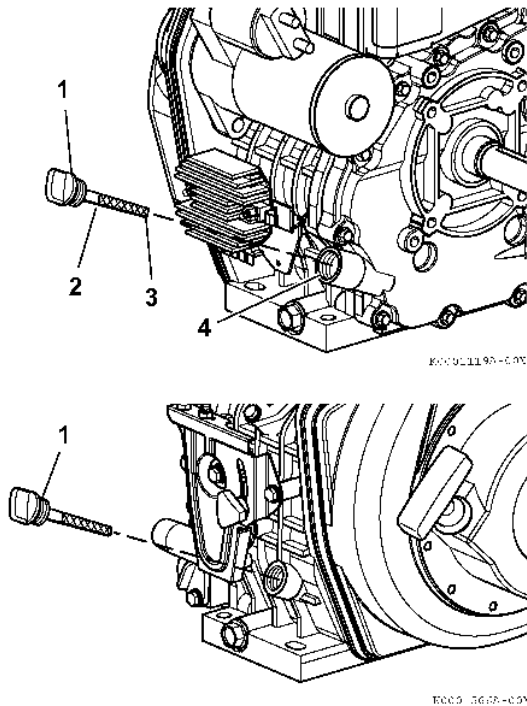

Figure 49
2. Remove oil cap/dipstick (**Figure 49, (1)**) from either location and wipe with clean cloth.
4. Remove oil cap/dipstick. The oil level should be between upper (**Figure 49, (2)**) and lower (**Figure 49, (3)**) lines on the oil cap/dipstick.
5. Fully reinsert oil cap/dipstick (**Figure 49, (1)**) and hand-tighten. Over-tightening the oil cap/dipstick will damage it.
2. Remove oil cap/dipstick (**Figure 49, (1)**).
3. Add indicated amount of engine oil at either one of the engine oil filler ports (**Figure 49, (4)**).
5. Add engine oil as needed until the level is between the upper (**Figure 49, (2)**) and lower (**Figure 49, (3)**) lines on the oil cap/dipstick.